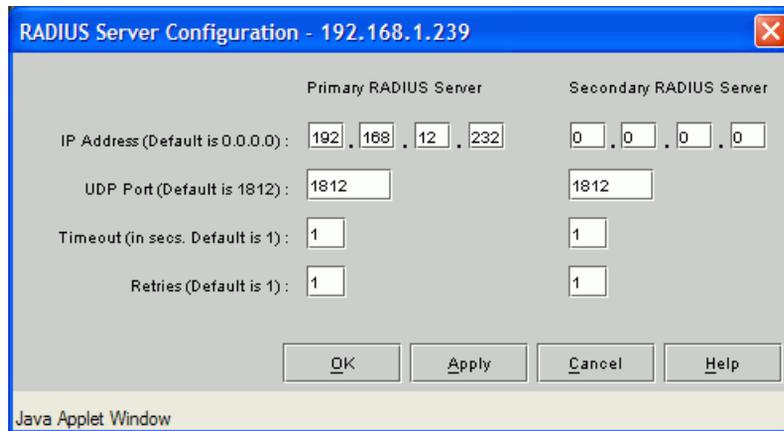

Figure 5-15 RADIUS Server Configuration Dialog Box
- Click *Advanced* to display the *Advanced TCP Configuration* dialog box (refer to Figure 5-15).